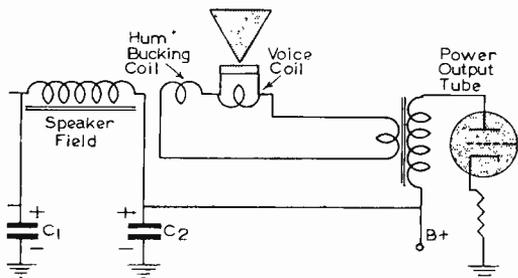

Fig. 5.
**Hum Caused by Replacement Parts.** Improper replacement of parts can sometimes cause hum. A typical example is a loudspeaker cone replacement. If the hum level is normal before the replacement but excessive afterwards, very likely the speaker has a hum-bucking coil—mounted on the speaker field that has been improperly connected to the voice coil. This coil should be connected as shown in Fig. 5—then, any hum